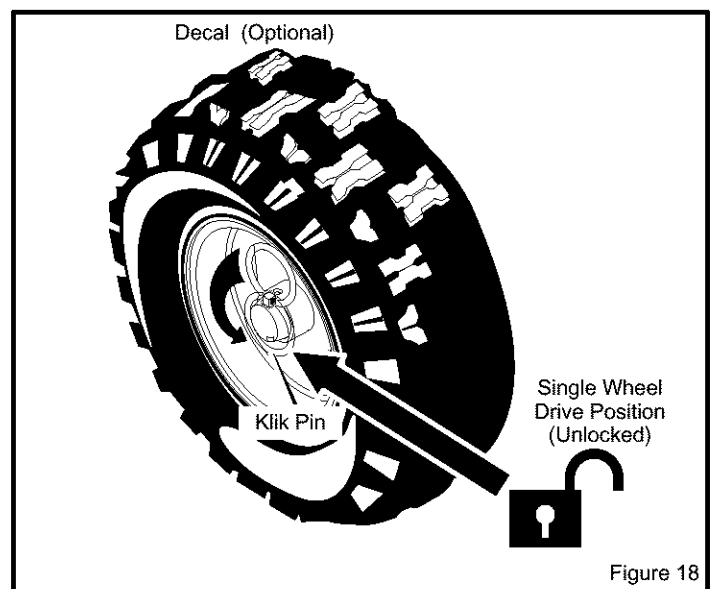

Figure 18
2. For ease of maneuverability when lighter conditions prevail, remove klik pin from wheel locked position and insert into single wheel drive (unlocked) position (Figure 18). Make sure that the klik pin is in the single wheel drive position of the axle only and not through the locked position.